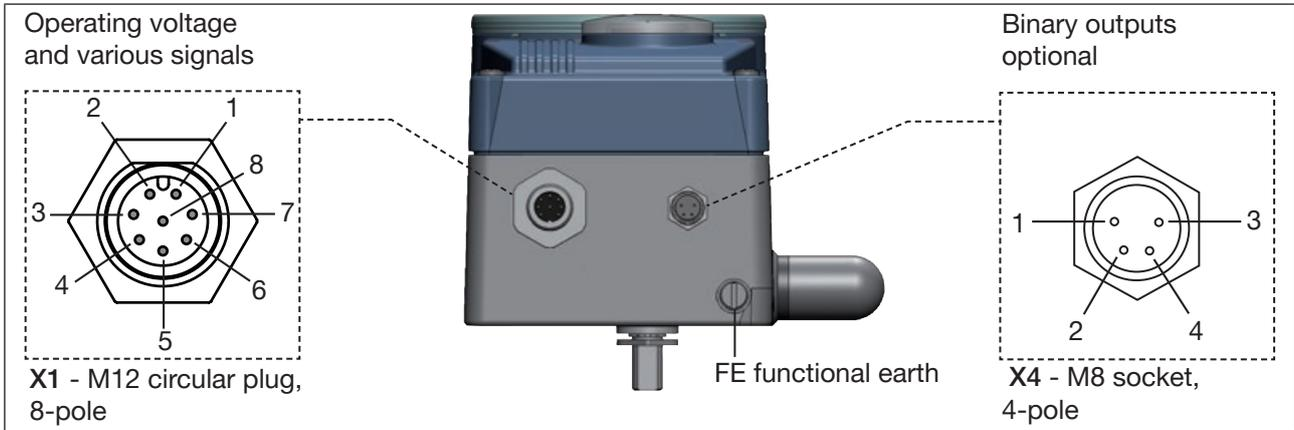

Figure 20: Type 8792; designation of the circular plug-in connectors and contacts
*** Position of the switch, see "Figure 20: Type 8792; designation of the circular plug-in connectors and contacts"